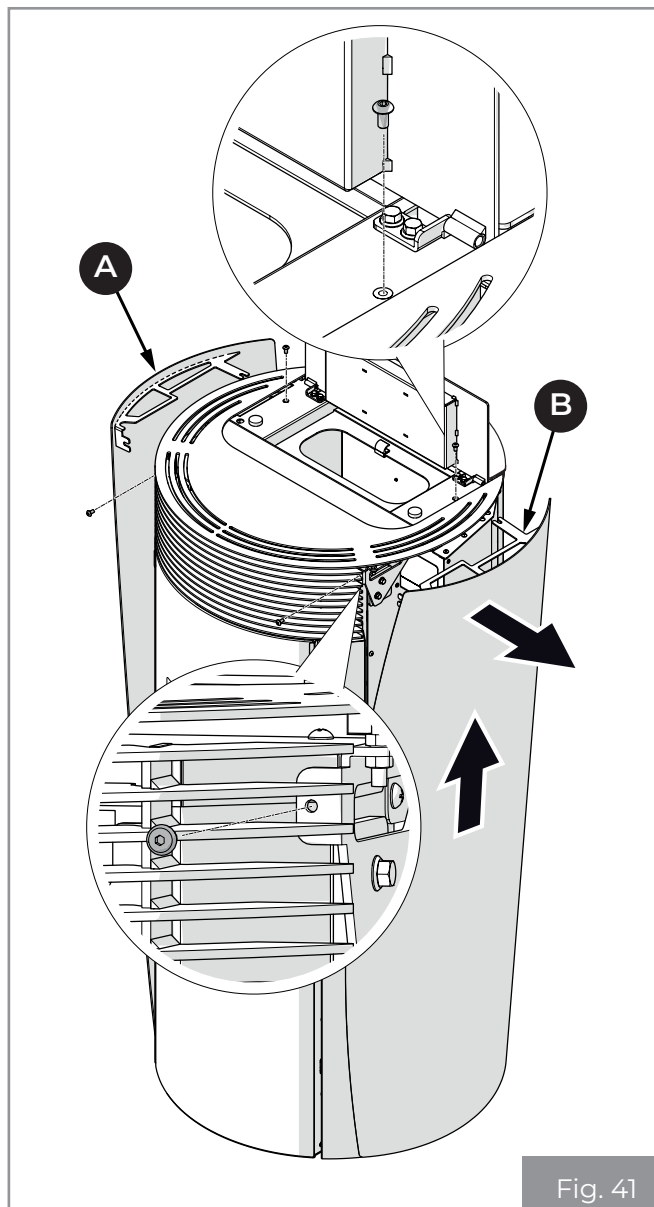

Fig. 41
- Remove the sides **(A)** and **(B)** (**Fig. 41**).